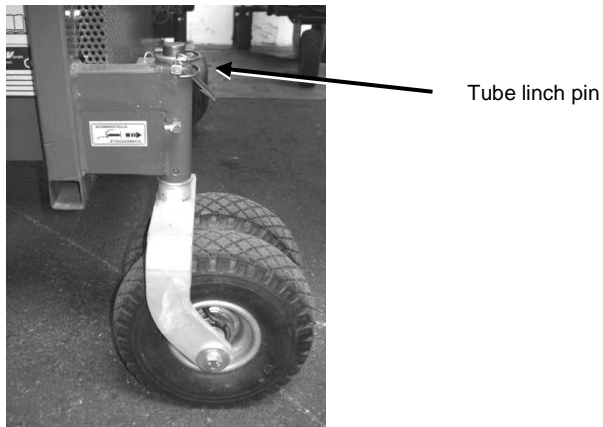

Fig. 39: Pivot wheel
1. Turn the pivot wheels to the rear and secure them with the tube lynch pins (see Fig. 39).